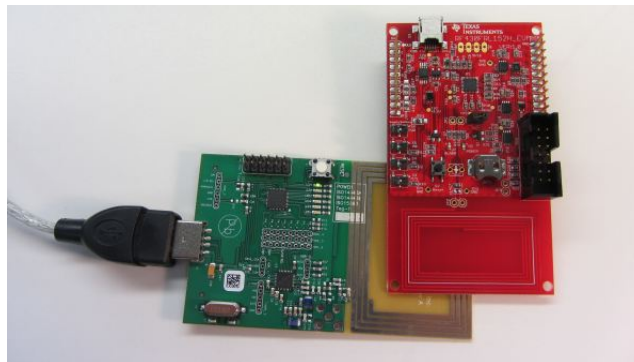

Figure 15. Position the EVMs
4. Position the RF430FRL152HEVM antenna on the antenna portion of the TRF7970AEVM as shown in Figure 15. It is recommended to have an insulator between the two antennas or to hold them at a distance from each other to prevent any short circuits.